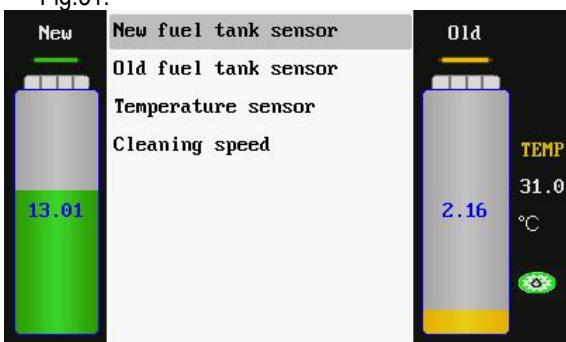

Fig.31
1) Select the item for sensor calibration, press OK key to OK the sensor calibration menu as shown in Fig.31.